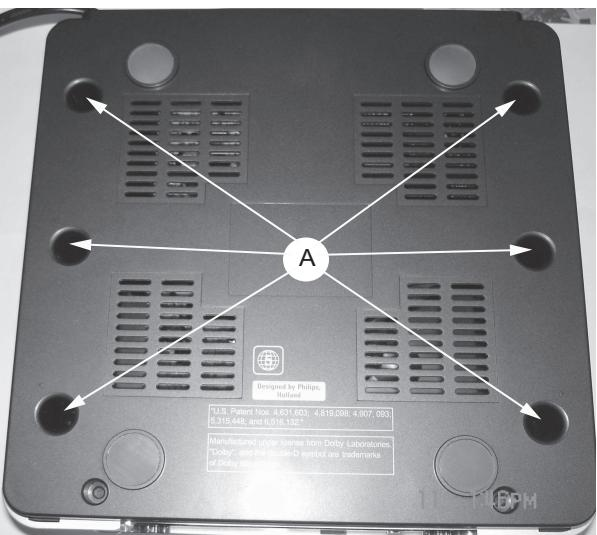

figure 1
- 1) Loosen 6 screws "A" as shown in figure 1 to remove bottom cover.